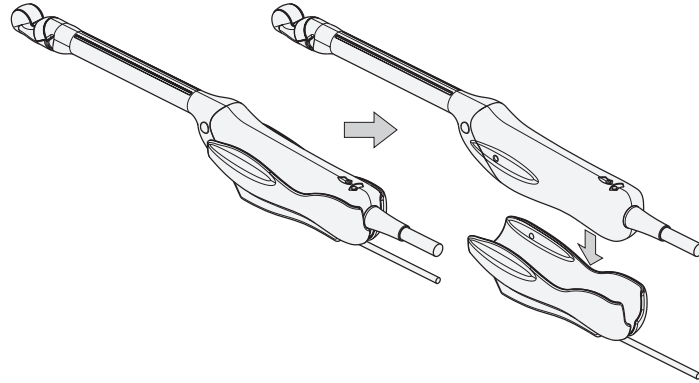

Figure 10 How to release Magnetic Position Sensor Attachment
- (1) Release the magnetic position sensor attachment from the probe as shown in Figure 10.